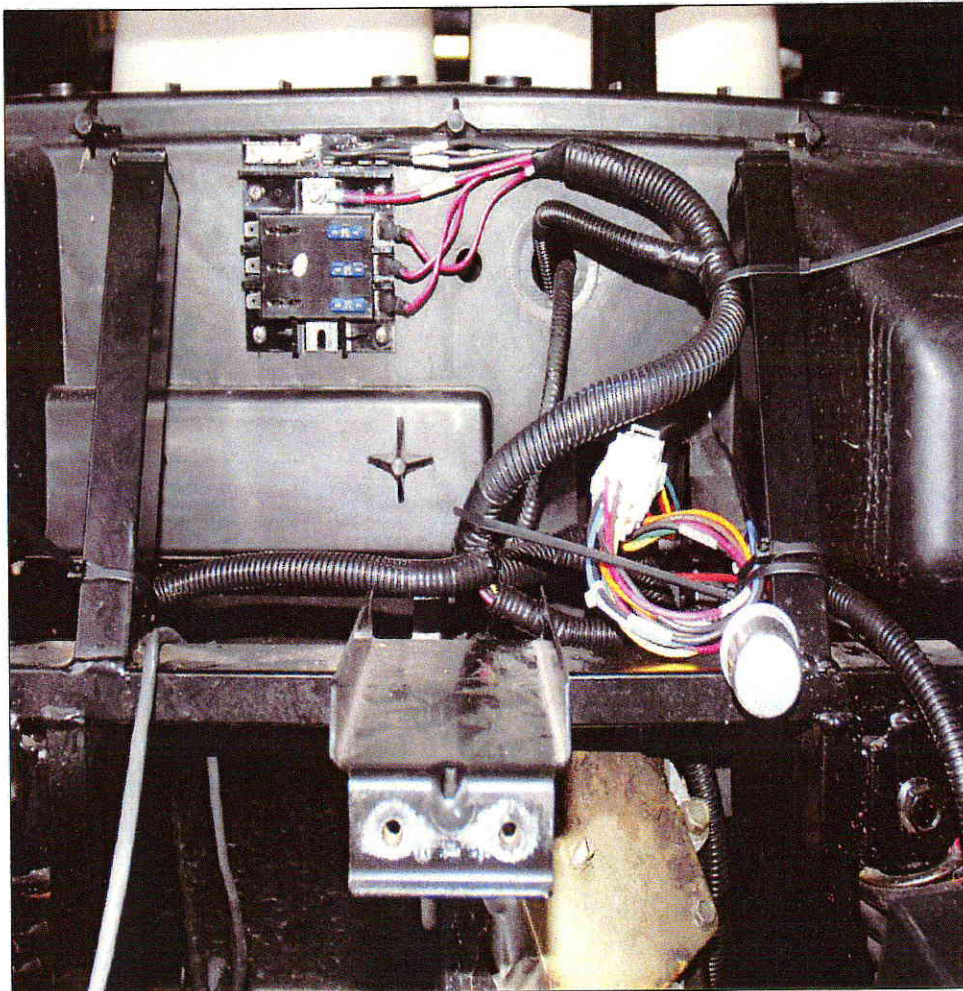

Figure 2
11. Attach the fuse panel with nuts and bolts provided. See Figure 2 below.
13. Route wires for the headlight around the cowl support. The longest leg goes to the passenger side. Secure the entire wire harness with wire ties, making sure that it has sufficient clearance from all moving parts i.e. tires, steering mechanism etc. Secure the flasher unit with a wire tie or tape as shown in Figure 2.